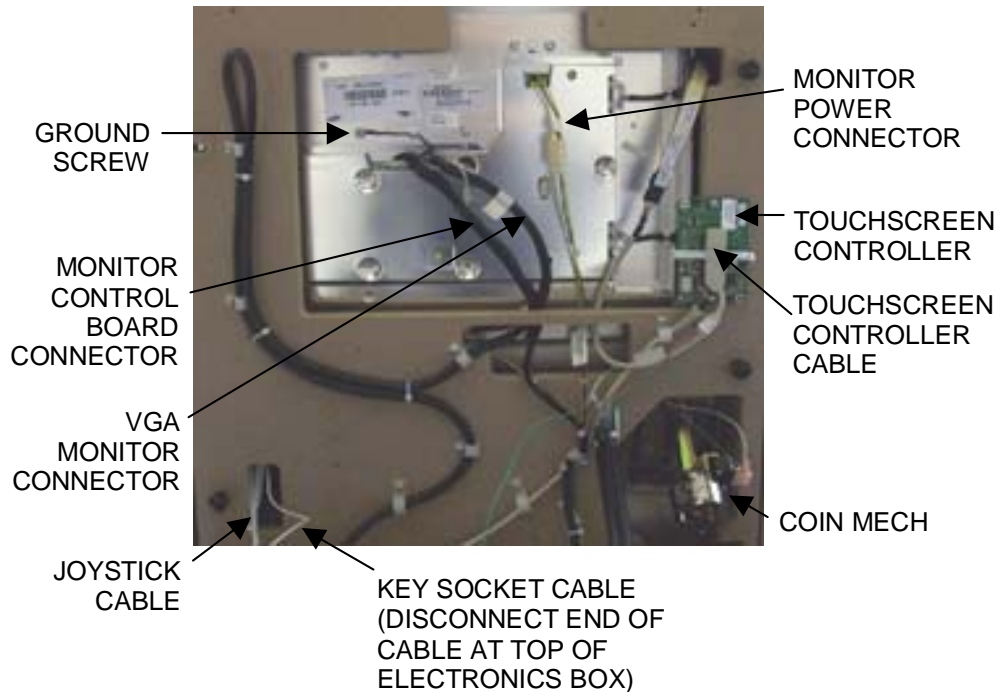

FIGURE 5 - UNDERSIDE OF BEZEL
2. Connect the VGA monitor connector and ground screw, the monitor control board connector and the monitor power connector to the new monitor. (See Figure 5.)
Connect the touchscreen cable to the touchscreen controller (Figure 5), making sure that the cable's pins are correctly aligned.
4. Place the bezel on the game and reconnect the 10-pin joystick harness between the bezel and wooden frame, then fasten the bezel to the frame with the 6 thumbnuts. Reconnect the key socket wire and the coin mech wires (green = COM, white = OPEN). See Figure 5.